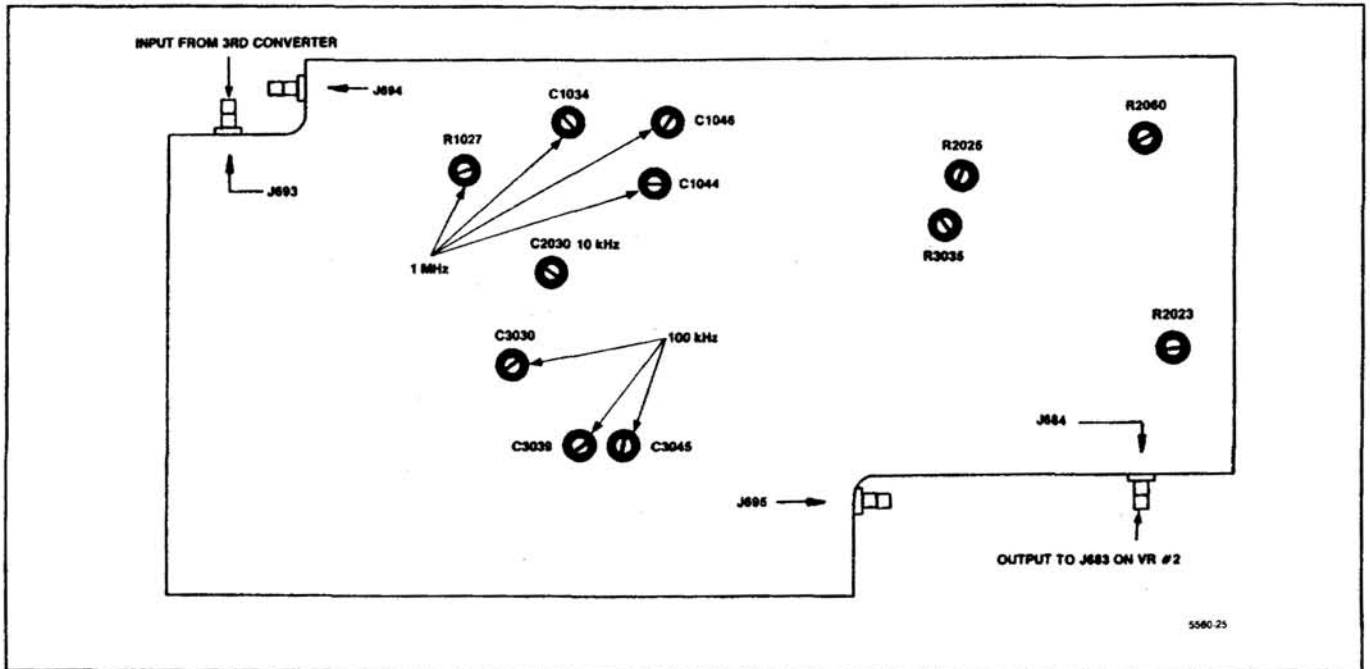
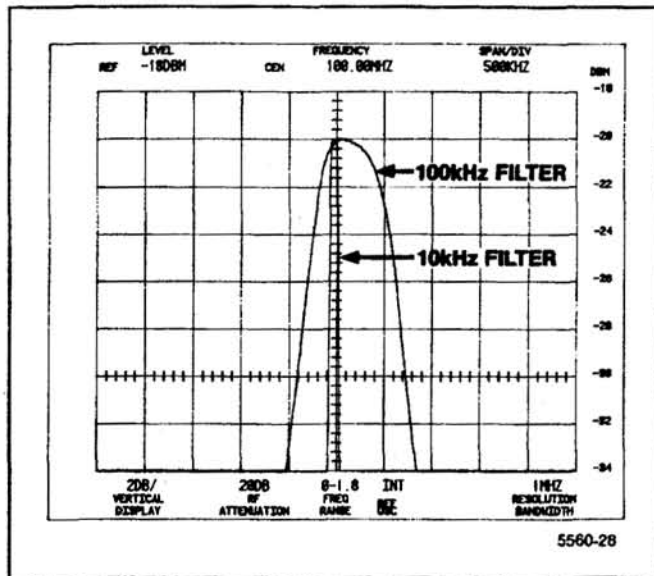
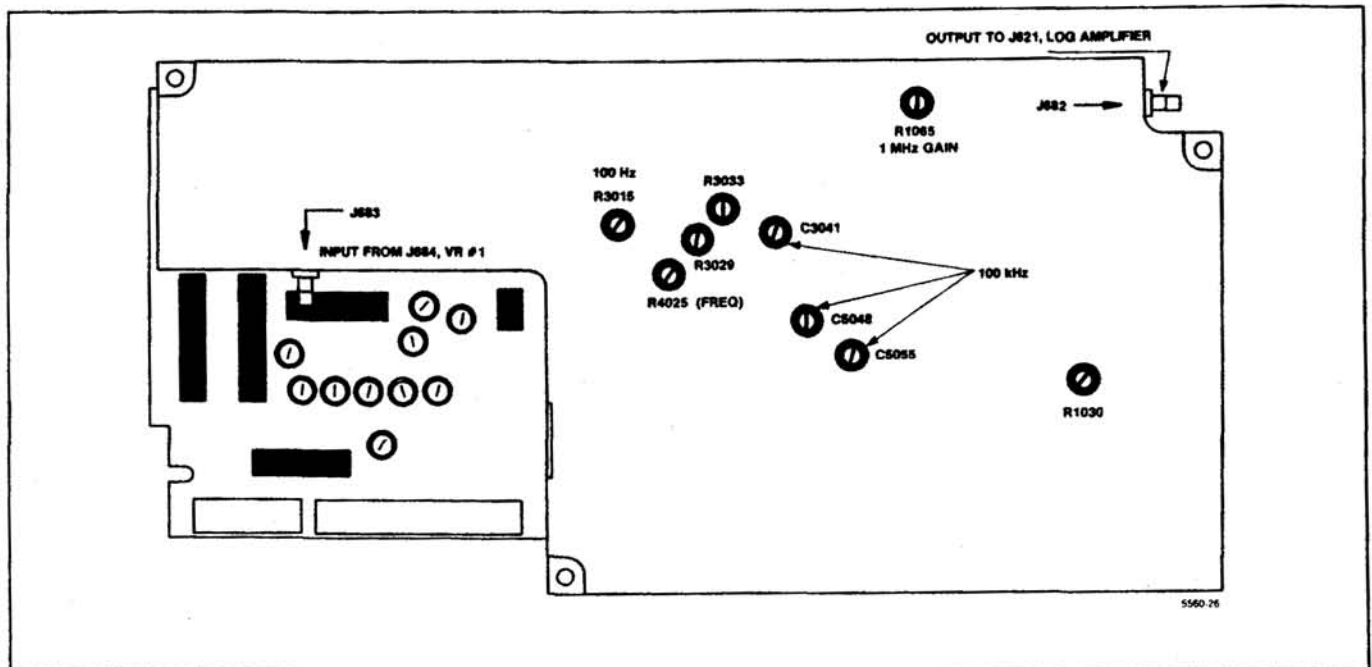

Figure 5-15. Adjustments on the rear of the Variable Resolution module.
Figure 5-16. 100 kHz over 10 kHz filter response.
Figure 5-17. Adjustments on the front of the Variable Resolution module.
d. Adjust the four tuning screws (capacitors) on the 110 MHz Bandpass Filter (FL36) for the best 3 MHz filter response (3 MHz bandwidth ± 600 kHz, 6 dB down) that is centered about the 10 kHz reference. Refer to Figure 5-16.
f. Adjust C1034, C1044, and C1046, and R1027 on the VR 2nd Filter Select board (Figure 5-15) for the best 1 MHz filter response (1 MHz bandwidth, 3 dB down, that is centered about the 10 kHz reference). Refer to Figure 5-16.
h. Adjust C5055, C5048, and C3041 on the VR 2nd Filter Select board (Figure 5-17) for the best 100 kHz filter response (100 kHz bandwidth, 3 dB down, that is centered about the 10 kHz reference). Refer to Figure 5-16.
- (4) Adjust R4025 on the VR 2nd Filter Select board (Figure 5-17) for maximum signal amplitude.
- (29) Press **RECALL SETTINGS 2**.
- (30) Adjust C4060 in the 10 Hz/100 Hz Bandpass Filter assembly for best symmetry.
- (31) Repeat parts 28 through 31 to eliminate interaction.
- (32) Remove all jumpers from the 10 Hz/100 Hz Bandpass Filter assembly.
- (33) Press **<Blue-SHIFT> CAL** to start the internal calibration routine. Press **FINE** to continue calibration as prompted.
- o. Adjust C2030 (Figure 5-15) for the best 10 kHz response centered about the 1 kHz reference.
- r. Adjust C3045, C3039, and C3030 (Figure 5-15) for the best 100 kHz response centered about the 10 kHz filter reference.
e. Disconnect P693 (Figure 5-17) and activate MIN NOISE. Apply a 10 MHz, -25 dBm signal, from the signal generator, through a bnc-to-Seaelectro adapter to J693. Set the generator frequency to peak the signal amplitude. (Signal amplitude should be between 3.5 and 6.5 divisions. If signal amplitude is not within these limits it indicates a gain problem in the Variable Resolution module.)
h. Switch MIN NOISE off, decrease the generator output to -35 dBm, leave the REF LEVEL at -20 dBm, and adjust the 10 dB Gain R3035, on the 10 dB Gain board (Figure 5-17) so the signal amplitude is 7 divisions.
i. Change the generator output to -45 dBm, the REF LEVEL to -40 dBm, and adjust the 20 dB Gain R2023 on the 20 dB Gain Step board (Figure 5-17) for a 7 division signal amplitude.
j. Change the generator output to -65 dBm, the REF LEVEL to -60 dBm, and adjust the 10 dB Gain R2060 on the 20 dB Gain Step board (Figure 5-17) for a 7 division signal amplitude.